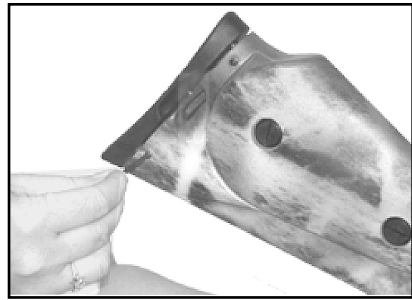

Fig 8
- Loosen set screws on right side of stock, located above and below the adjustment dial, enough to turn dial freely. ***See Figure 8***